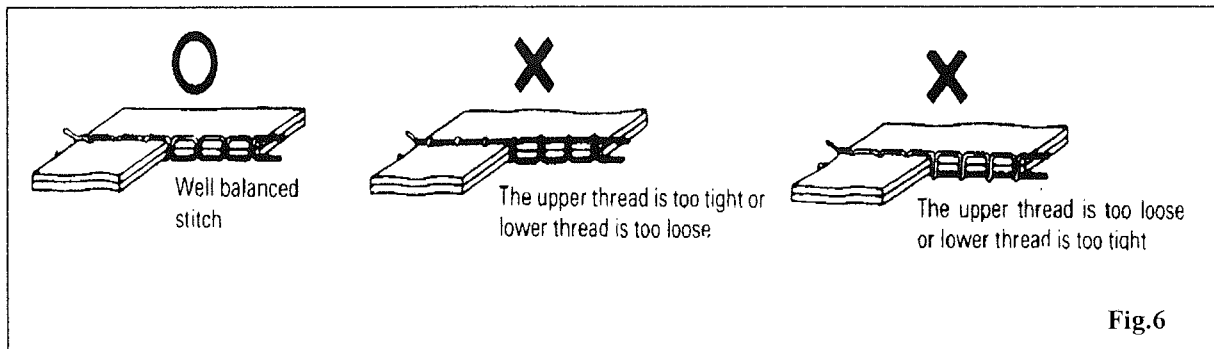

Fig.6
5) REGULATING THE TENSION OF THE THREAD (Fig.6)